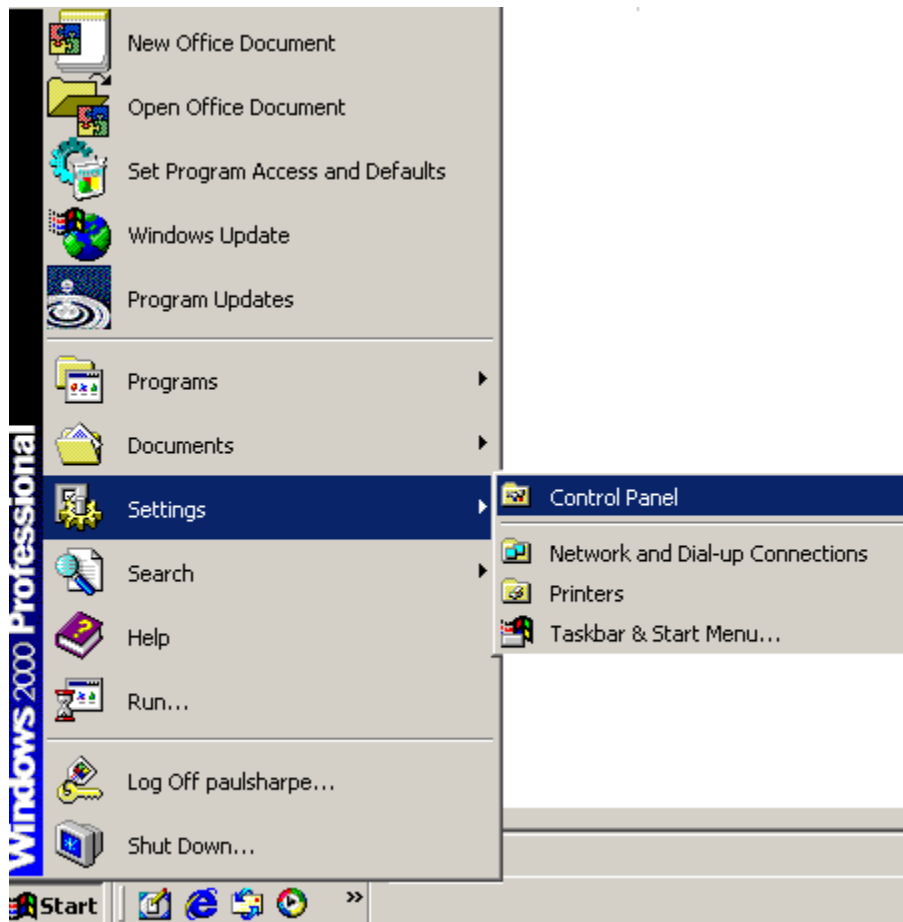

Figure 6-3: Access Windows Control Panel
Step 1: Open **Windows Control Panel (Figure 6-3)**.